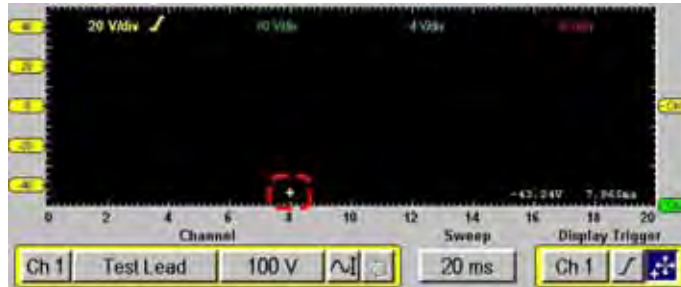

Figure 4-59 Sample channel trigger position marker
- If a Channel trigger (Ch1–4) is selected, a plus-sign (+) colored according to the channel it represents displays in the graph area (Figure 4-59).